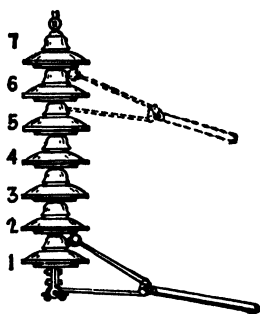

FIG. 21-5. Second step or shorting process in testing suspension insulators by means of buzz stick. (Courtesy Johnson Mfg. Co.)
**Shorting Out a String of Insulators.** Touch the horn of the buzz stick on which there is no ball to the line conductor. Hold this horn in contact with the line and make and break contact with the buzz ball on the other horn with cap 1 (Fig. 21-5). There will be produced a snappy spark on making and breaking contact with cap 1. The intensity of the spark is judged by its sound and not by its length. Then hold the horn on which there is no ball in contact with cap 1, and make and break contact with the ball with cap 2. A snappy spark will be produced on making and breaking contact with cap 2, but the intensity of